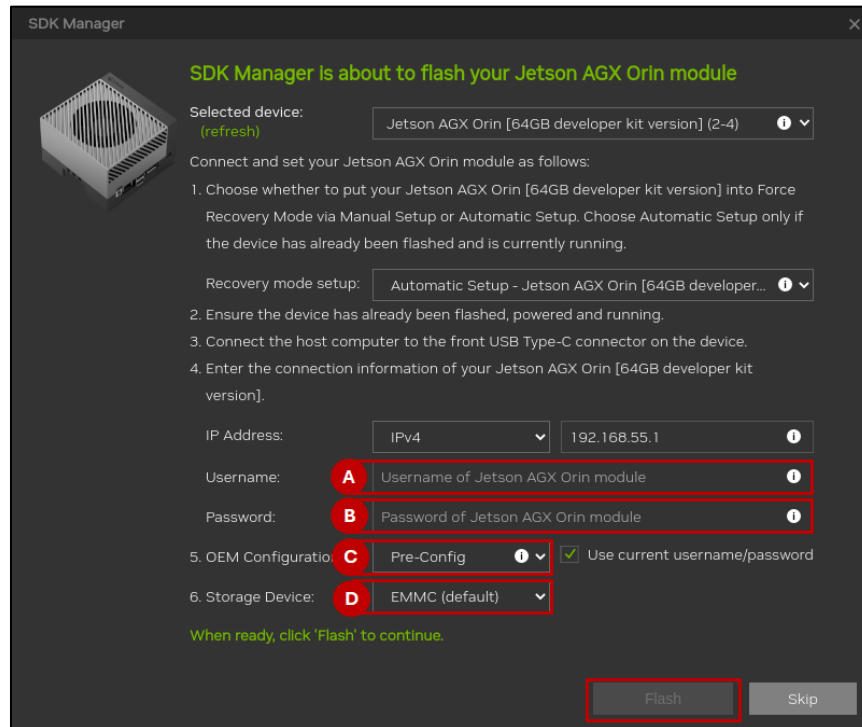

Figure 6.10. SDK Manager
10. When prompted for the flash setup, enter the desired username to access the AGX Orin system, see letter **(A)** in Figure 6.10, along with the password at **(B)**. Select **Pre-Config** from the dropdown at **(C)** and **EMMC** as the storage device at **(D)**. Then, click **Flash** to proceed.